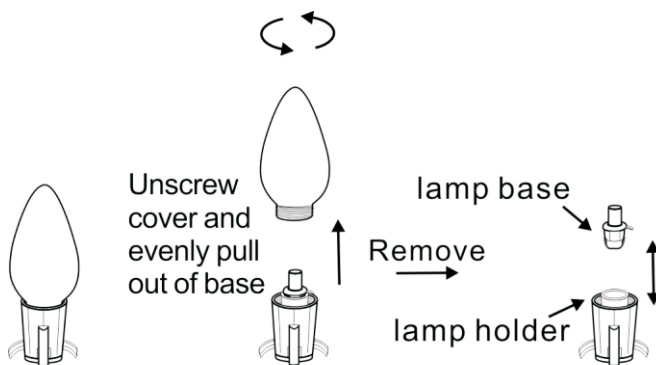

Fig.1 Remove the burned out lamp
- b) Pull lamp and plastic base straight out of lampholder as shown in Fig.1.